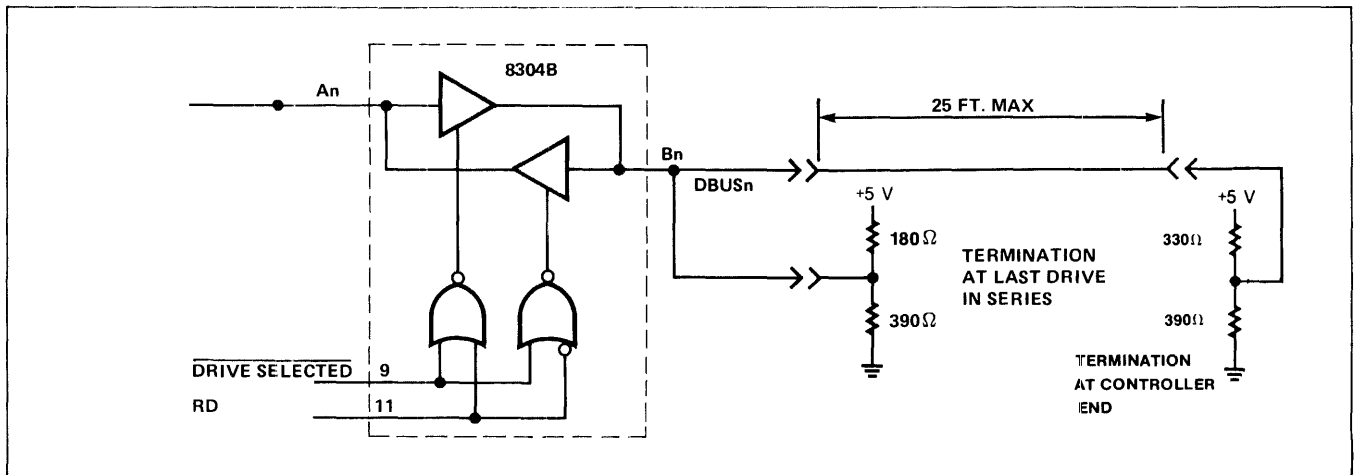

Figure 4-10. DBUS Transceiver
1. + *DBUS 0-7*. This high-active 8-bit wide bus is used to transfer commands and status (head carriage control and interface) between the disc drive and the controller. These lines connect directly to an 8304B bus transceiver, as shown in Figure 4-10. DC characteristics are listed in Table 4-7. These lines should be terminated at each end.